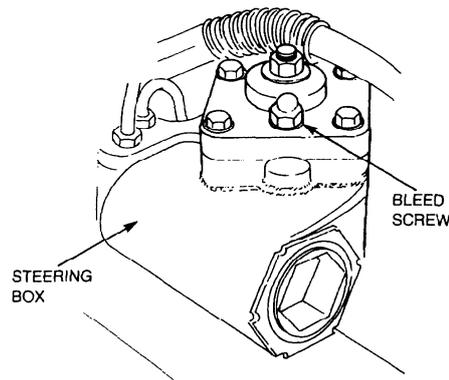

Figure 170 Power Steering Bleed Screw Location
- c. Loosen the bleed screw in the steering box (Figure 170) until fluid is observed at the bleed screw.